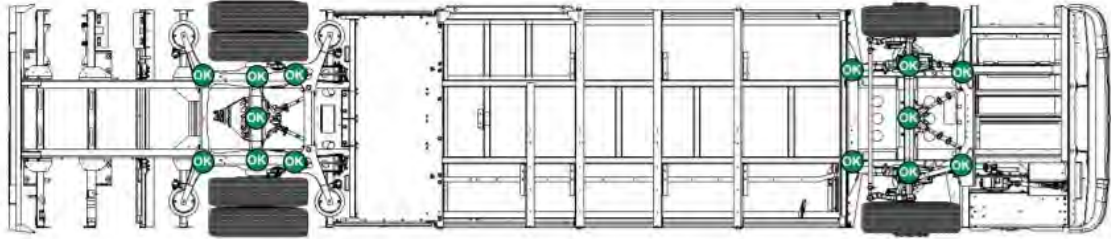

Fig. 2.5
6. The floor jack must be located properly (Fig. 2.5) to prevent the possibility of the jack sliding from under the bus.